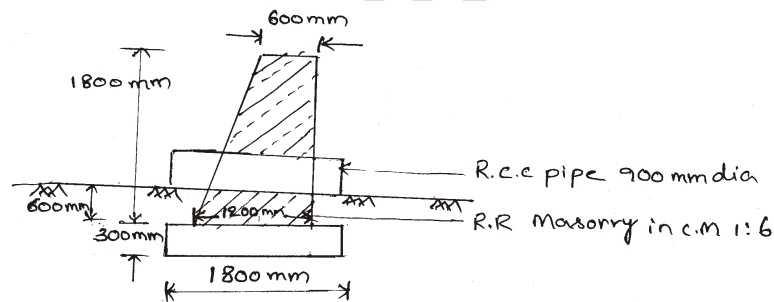

Fig. 2
8. The cross-section of head wall of pipe culvert is shown in Fig. 2. Calculate the quantity of RR masonry in CM 1 : 6, if the length of head is 6.0 m.